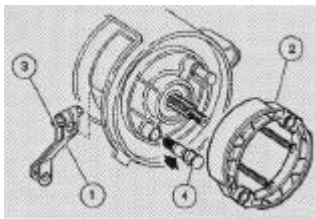

Fig. 20
GREASING THE REAR BRAKE OGIVE (FIG. 20)
4. Disassemble the brake shoes (2 -FIG. 20)
5. Remove the brake lever (1 -FIG. 20) by loosening the nut (3 -FIG. 20).
6. Remove the pin (4- FIG. 20).